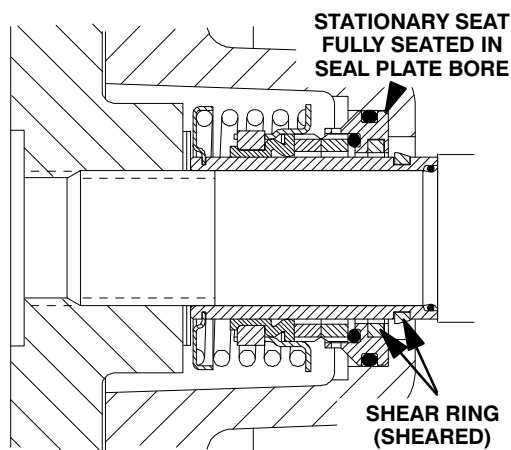

**Figure 10. Seal Partially Installed**
Clean and inspect the impeller as described in **Impeller Installation and Adjustment**. Install the full set of impeller shims (26) provided with the seal, and screw the impeller onto the shaft until it is seated against the seal (see Figure 10).